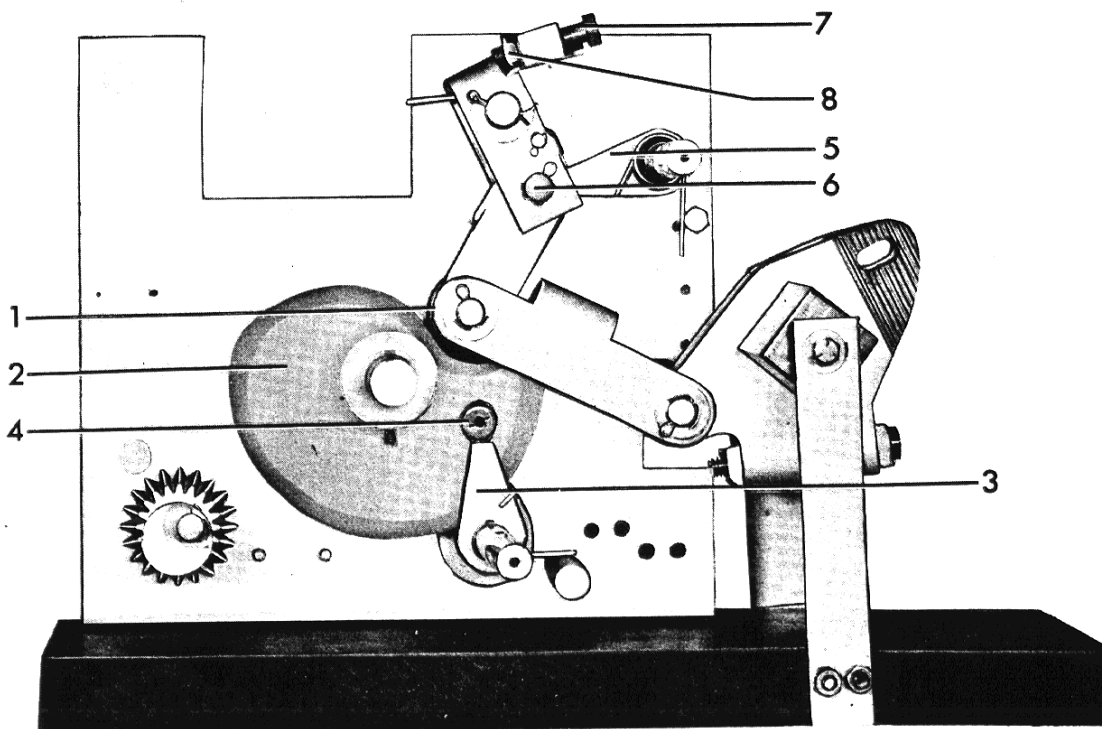

Figure 15. (8039445) Mechanism Linkage (Motor Mounting and Upper Plate of Mechanism Frame are Removed)
The cam follower (1) Fig. 15 and latch roller bearings (4) (6) should be first removed from the mechanism and the inner race disassembled. They should then be placed in a container of clean petroleum solvent or similar cleaner. DO NOT USE CARBON TETRACHLORIDE. If the grease in the bearings has become badly oxidized, it may be necessary to use alcohol (type used for thinning shellac) to remove it. Ordinarily, by agitating the bearings in the cleaning solution, and using a stiff brush to remove the solid particles, the bearings can be satisfactorily cleaned. Do not handle the bearings with bare hands as deposits from the skin onto the bearings are conducive to corrosion. If the bearings are touched, the contamination can be removed by washing in alcohol. After the bearings have been thoroughly cleaned, spin them in a clean new light machine oil until the cleaner or solvent is entirely removed. Allow this oil to drain off and then repack them immedi-